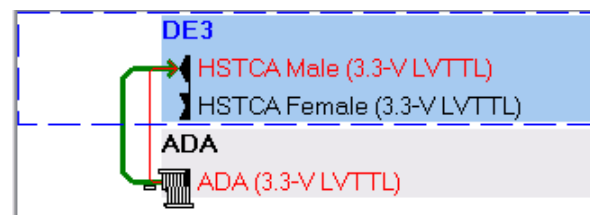

Figure 4.7. The step for removing a connection between two connectors
- iv. Redo the steps i to iii will remove an established connection as shown in Figure 4.7.